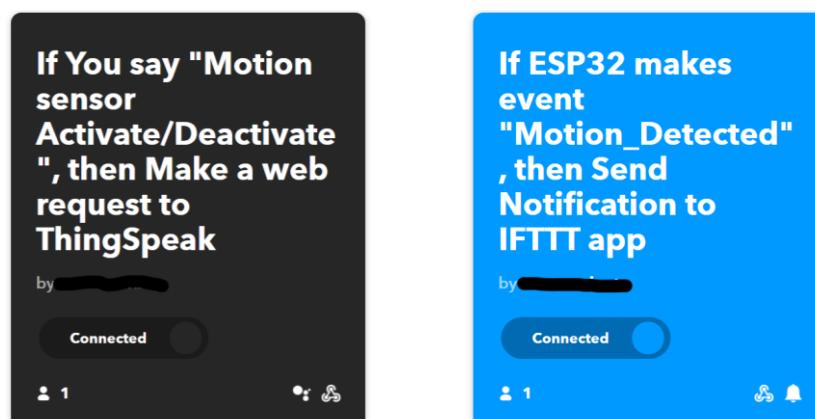
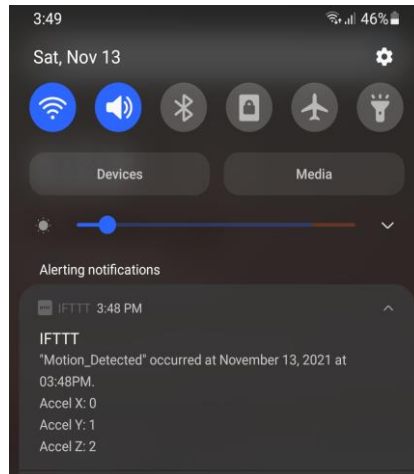

Fig 3. Example of (a) IFTTT Applet 1 (b) IFTTT Applet 2. Once you build the applets, they appear under ‘My Applets’ on the IFTTT website.
Fig 4. Notification received on IFTTT app on the phone
The purpose of the 2nd applet is to receive a web request from your ESP32 if any motion is detected and send a notification to your phone. In this case, you should use ‘Webhooks’ as the *trigger* and Notifications as the *action*. Whenever any motion is detected, the ESP32 should make a web request to Webhooks and pass on the accelerometer sensor values (X, Y, Z axis), which in turn should send a notification to the IFTTT app on your phone. Fig. 3 shows examples of these two applets. Fig. 4 shows an example notification received on the phone.
3. Move the featherwing assembly. ESP32 should now trigger IFTTT applet 2 and send Notification to your phone (IFTTT app) like Fig. 4.